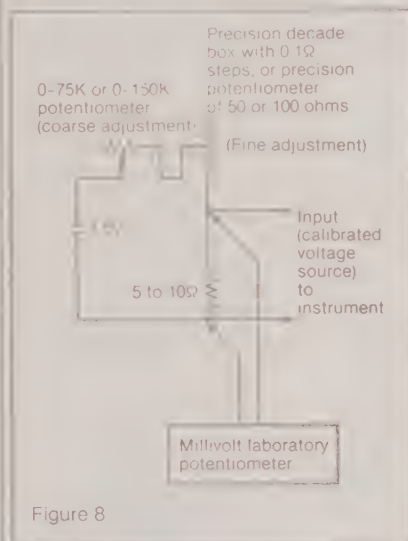

Figure 8
2. Connect a precision voltage source as shown in the CALIBRATION PREPARATION section. If a commercial run up box* is used, be sure that it is a type having a FIXED resistance of 100 ohms or less at the output terminals. If a fixed resistance type is unavailable, then one may be constructed as shown in Figure 8